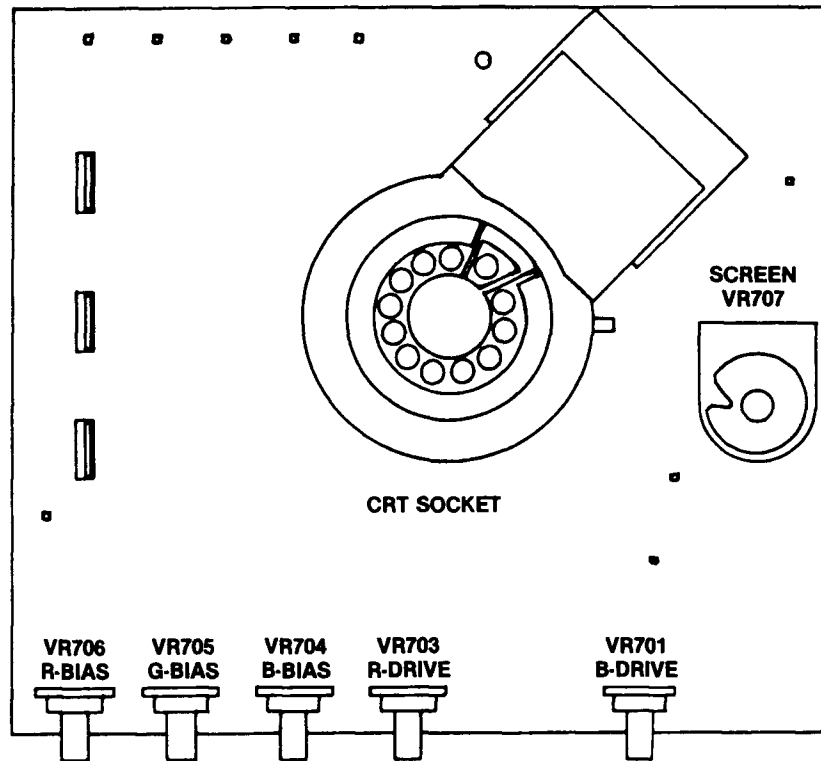

Figure 4 Adjustable Controls on CRT PCB
The SCREEN control, VR707, should be adjusted if the picture image is either too bright or too dark. Figure 4 shows the location of the SCREEN control on the CRT printed-circuit board (PCB).
2. Using the SCREEN control shown in Figure 4, adjust the display for a pleasing level of brightness.